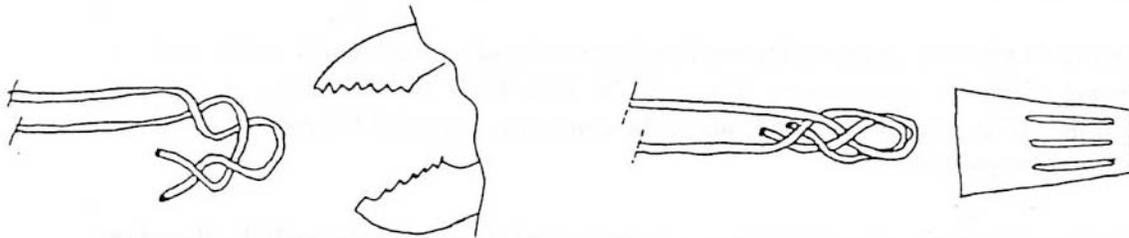

Figure 2: Wiring Nuts
**Three Wire Connectors:** These hollow plastic cones containing conical springs are often called "wiring nuts" and are widely used in 120/240 volt wiring in buildings. They come in various sizes and what you have is about the smallest. Even so the leads are so small, (#22 and #25 AWG: American Wire Gauge) that you'll have to twist them together, bend them over and squeeze them with pliers before screwing on the wiring nut (see Fig. 2). In any case the leads should seem quite firmly connected when pulled or wiggled.